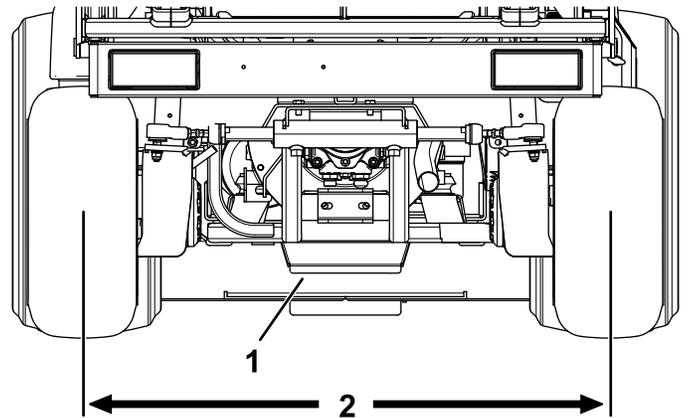

Figure 70
2. Adjust both tie rods until center-to-center distance at front and back of rear wheels is the same (Figure 70).